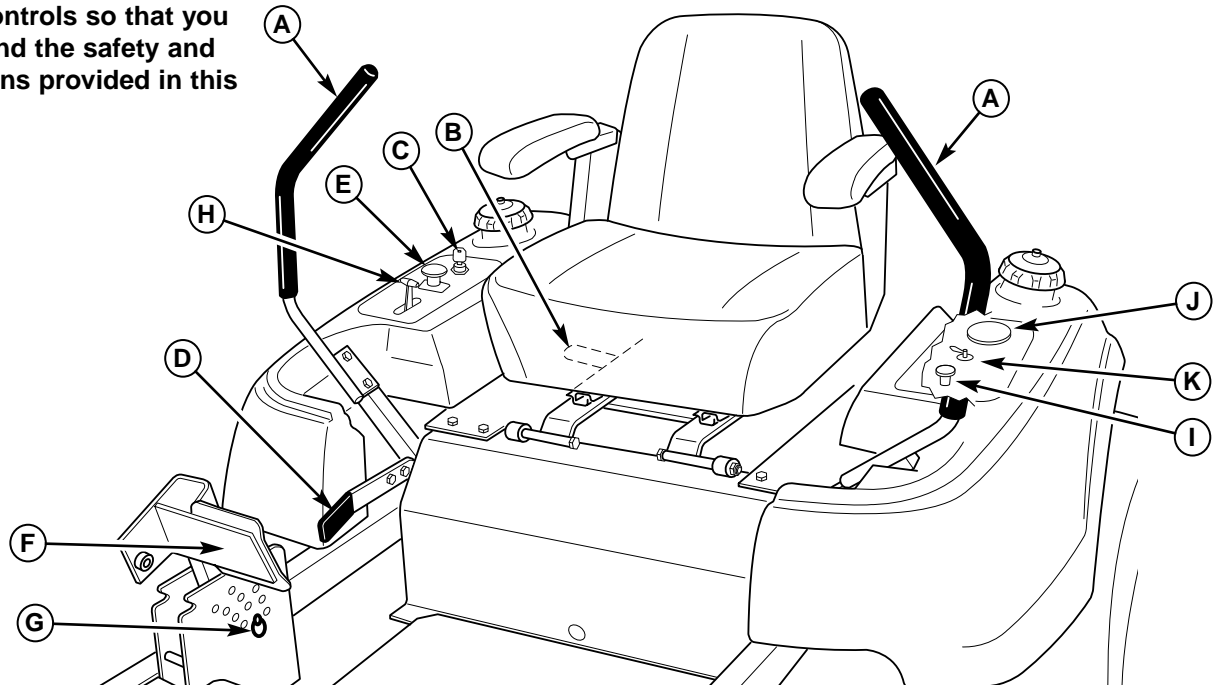

Figure 1. Control Locations
1. Returning the ground speed control levers (A, Figure 1) to the middle position will stop tractor movement. Pivot the levers outward and lock them in NEUTRAL.
2. Disengage the PTO by pushing down on the PTO switch (E, Figure 1).
3. Engage the parking brake by pulling the handle (D, Figure 1) up until it locks into position.
4. Move the throttle control (H, Figure 1) to mid-throttle position and turn the ignition key to OFF. Remove the key.